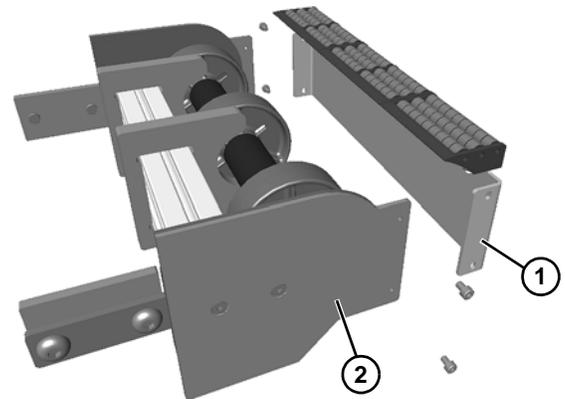

Figure 90
5. Remove the transfer roller and transfer bracket assembly (Figure 90, item 1) from the idler tail assembly (Figure 90, item 2).